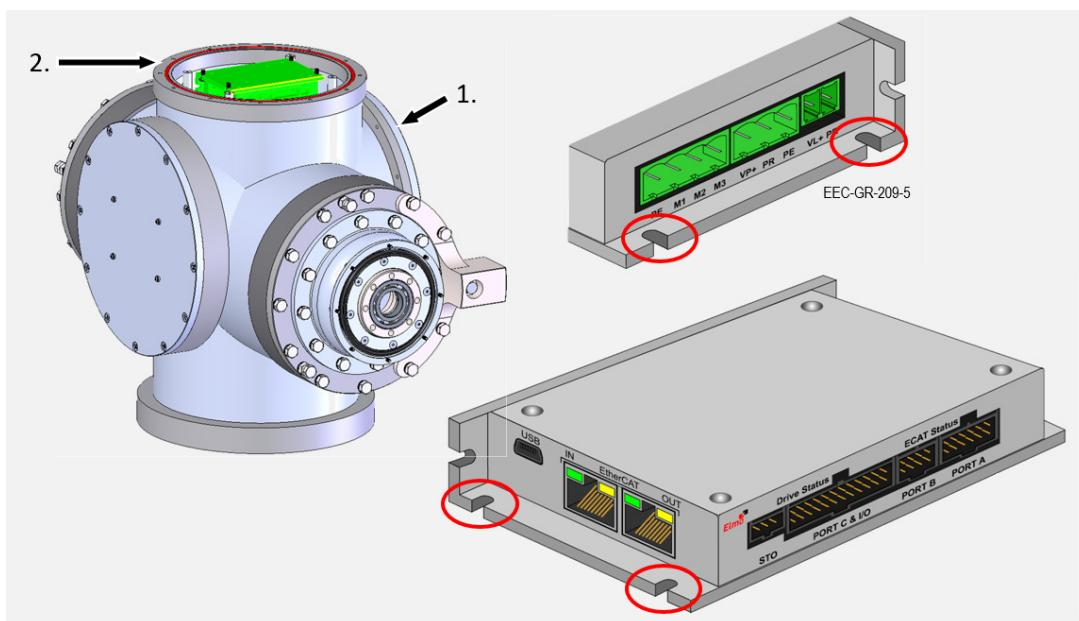

Figure 9. Servo Amplifier Removal
Open the Elevation Assembly FRONT Cover using a Philips Screwdriver (12 Screws). See Figure 9, Point 1.
Remove the Elevation Assembly TOP Cover using a Philips Screwdriver (12 Screws). See Figure 9, Point 2.
Using a Philips screwdriver disconnect the four (4) retaining screws that mount the Servo Amplifier to the Elevation Assembly TOP Cover. See Figure 9, Red Circles.